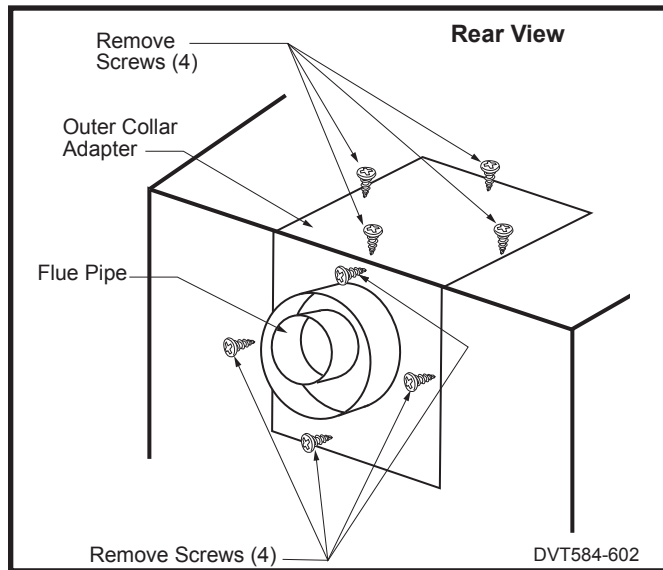

Fig. 10 Remove screws from outer collar adapter.
1. Remove the eight (8) screws securing outer collar adapter to fireplace. (Be careful not to damage insulation.) (Fig. 10)
3. Remove the eight (8) screws securing outer collar adapter to fireplace. (Be careful not to damage insulation.) (Fig. 10)